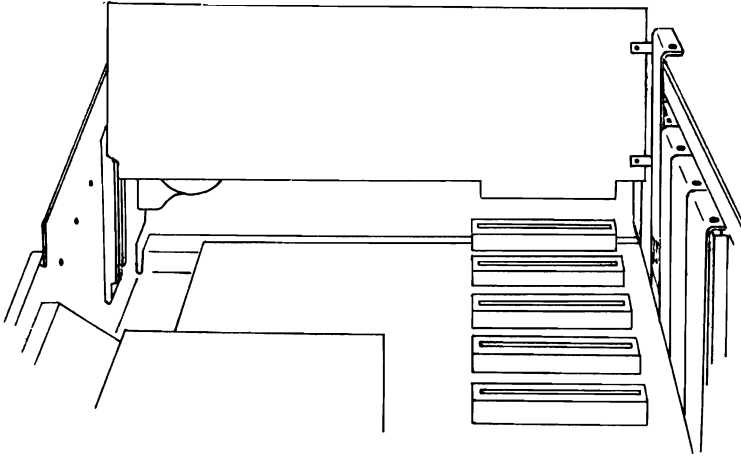

Figure 16
5. Slide the Captain board down into the slot, inserting the black metal Option Retaining Bracket (ORB) attached to the end of the board into the opening created by the removal of the slot cover (See Figure 16). Make sure that the gold 'fingers' of the edge connectors on the bottom of the board are completely in the computer slot. The serial port mounted in the ORB should now be accessible from the back of the computer.